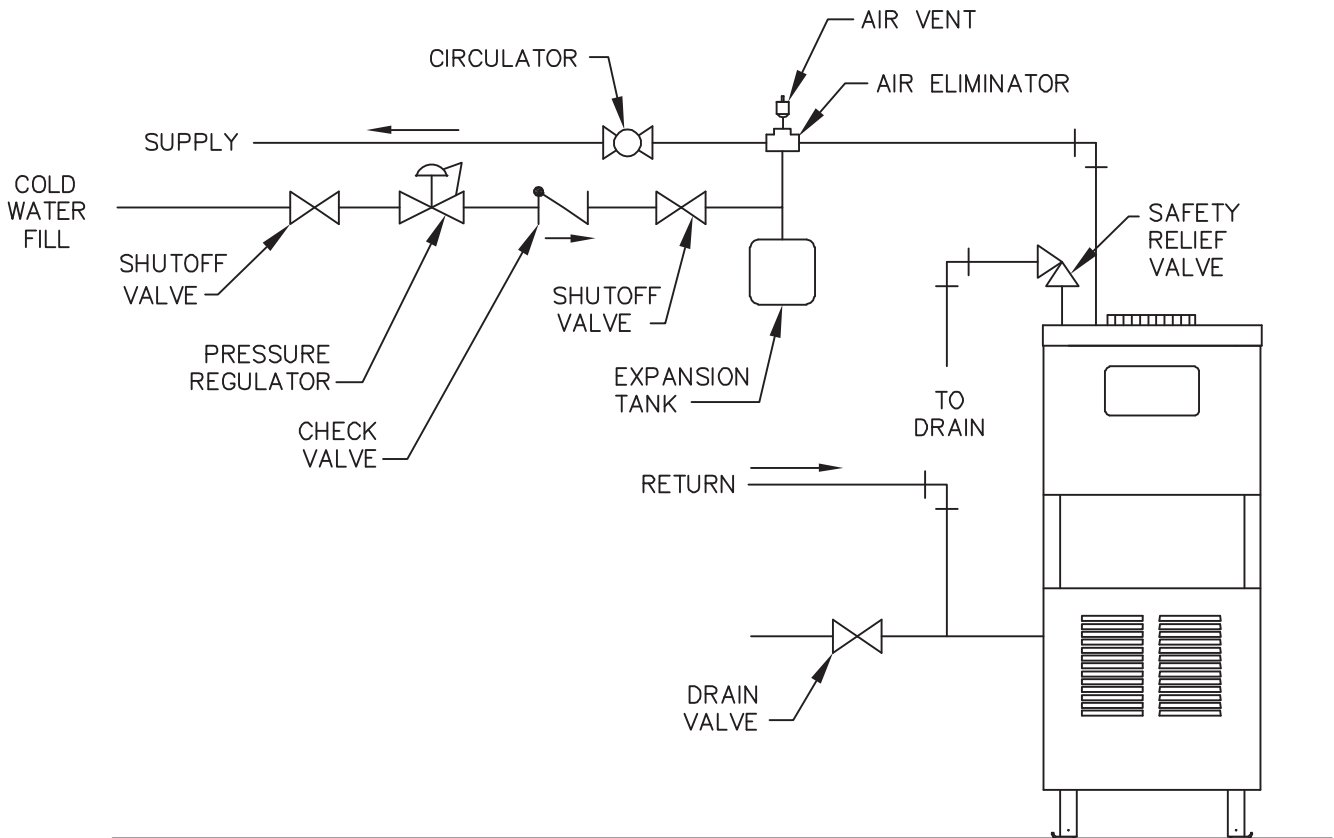

Figure 3.1: Supply and Return Piping
1. Size the supply and return to suit the system. A typical piping arrangement is shown in Figure 3.1. Refer also to the I=B=R Guide - Residential Hydronic Heating Installation/Design and the PB Heat Water Survey for additional guidance during water piping installation.
Pipe the drain valve to a tee, provided, and the 1-1/4 NPT return tapping near the bottom of the left section. Pipe the drain valve nipples and tee to the 1-1/4 NPT return tapping as shown in Figure 3.1.
2. Expansion tanks are available with built-in fill valves and check valves for reducing supply water pressure and maintaining minimum system pressure. Check the design features of the tank and provide valves as necessary. Refer back to Figure 3.1 for typical expansion tank piping.